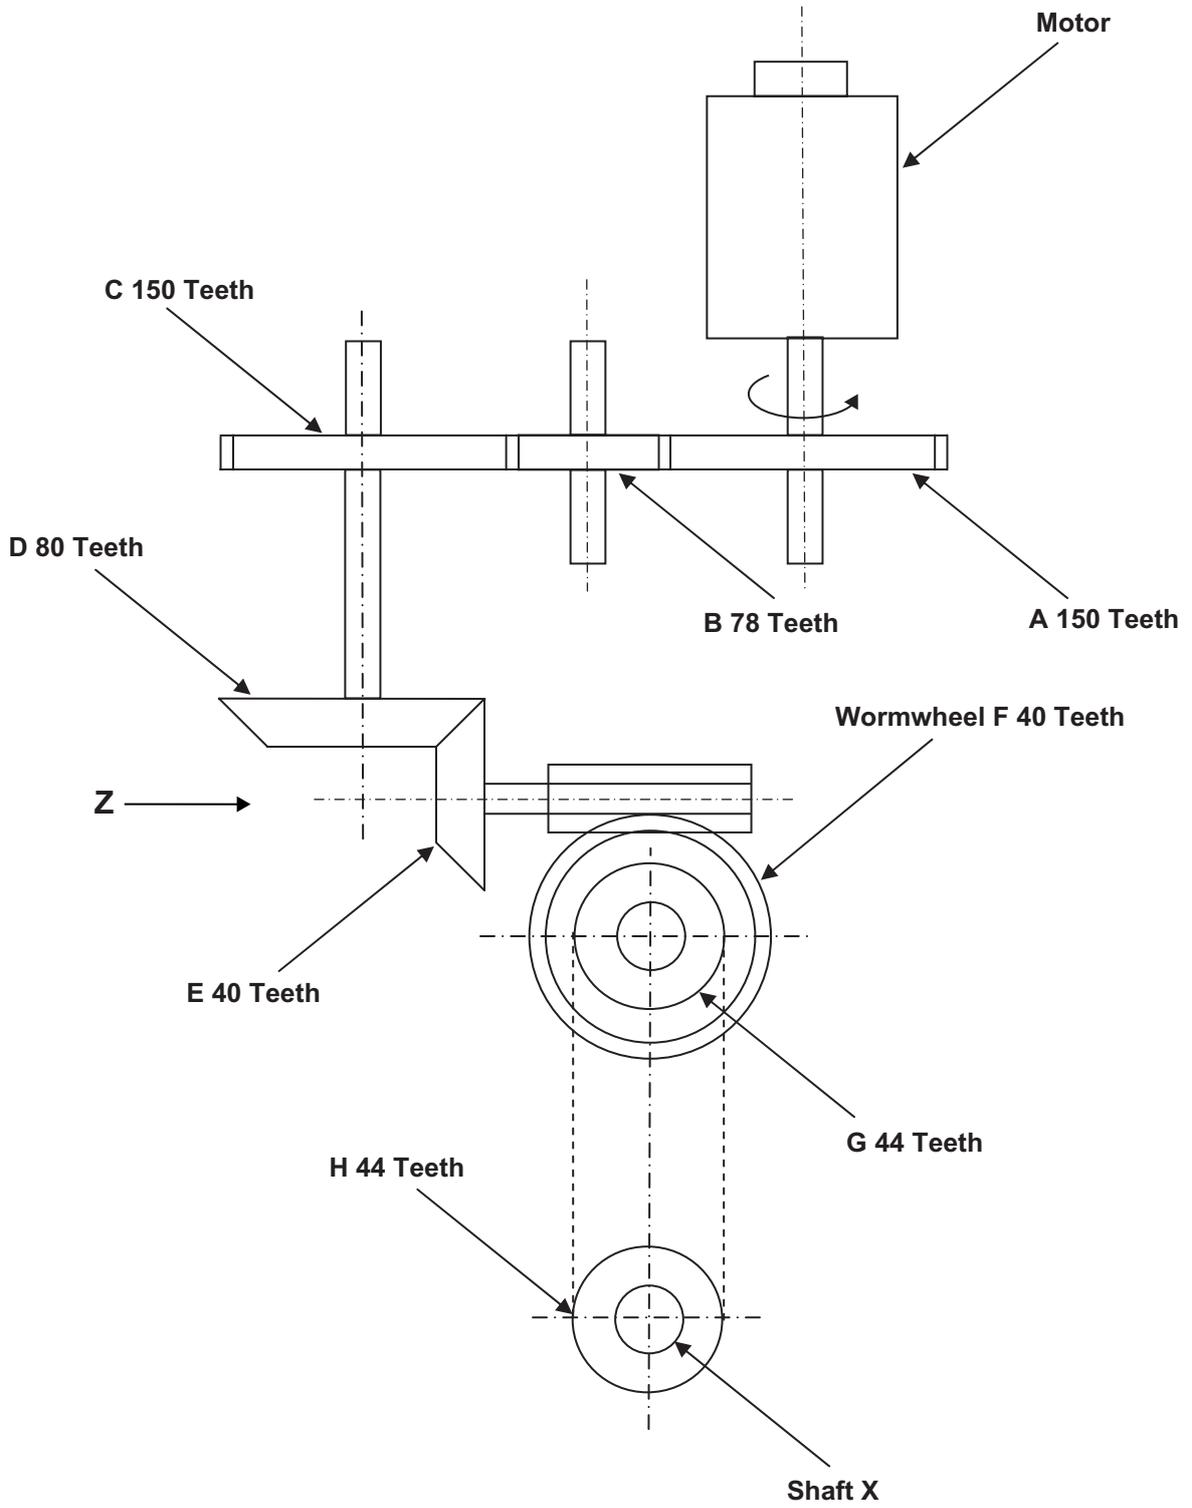

Fig. 11
11 Fig. 11 shows part of a mechanical system.
- (vi) Describe **two** main safety issues associated with the mechanical system shown in **Fig. 11**. Your answer should make reference to procedures which could minimise any hazards outlined. [2]